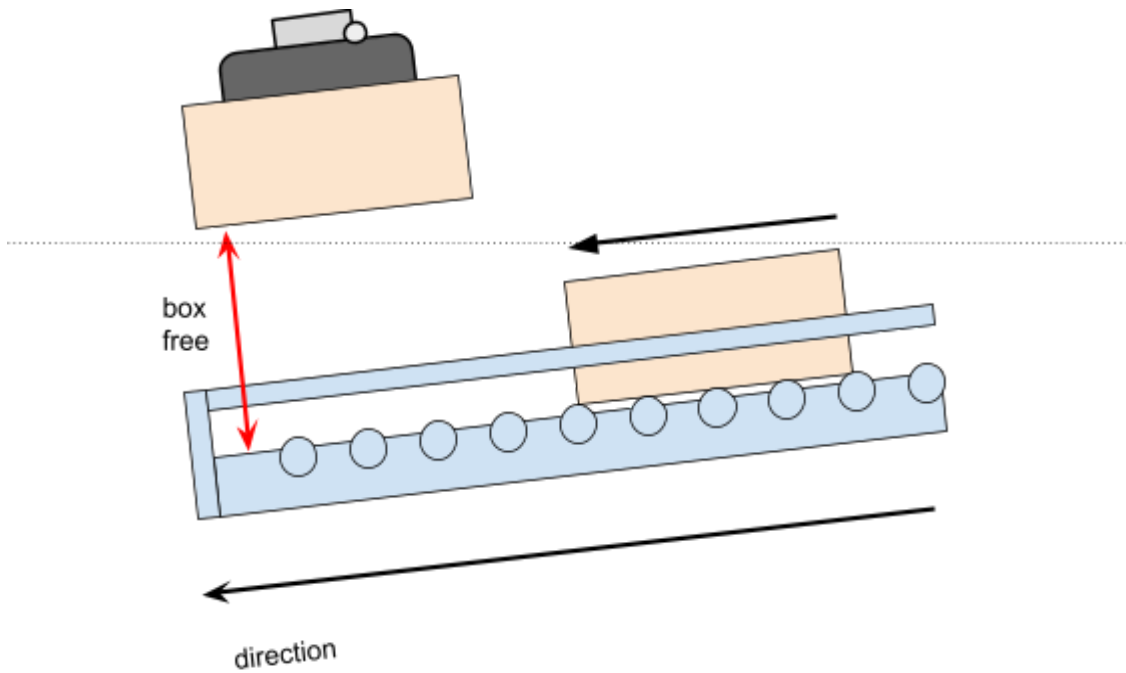

Figure 73: Choose a box free distance that is big enough to move the box above the others.
- Choose *box_free* high enough to move the box freely above the next boxes, as shown on **figure 73**.
- Choose "box free" high enough to move the box freely above the next boxes (**figure 73**).